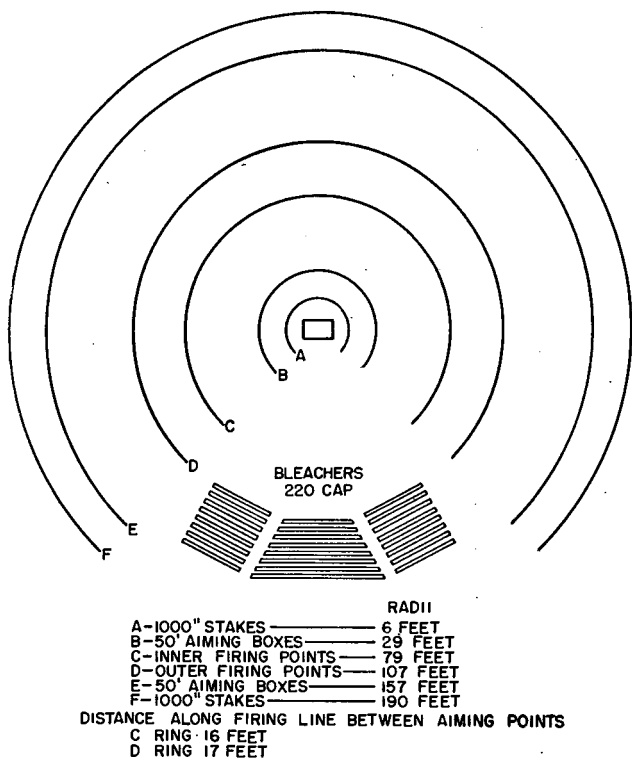

Figure 118. Detailed layout of the preparatory marksmanship field, modified circular type (temporary).
b. Organization of the modified circular type. This preparatory field is organized as shown in figure 118. Observe the following guides in organizing the training area:
- (1) Bleachers are placed on the circle as